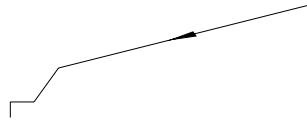

Fig. 4-8b G33 execution path 2
- ③ H=0 and Z move the distance which leaves the distance K(K point) to the end point D, X executes the thread run-out in advance. When K is big, the system executes the thread run-out in the middle of BC section, The path is as Fig. 4-8b; when K is small, the system executes the thread run-out in the middle of CD section.